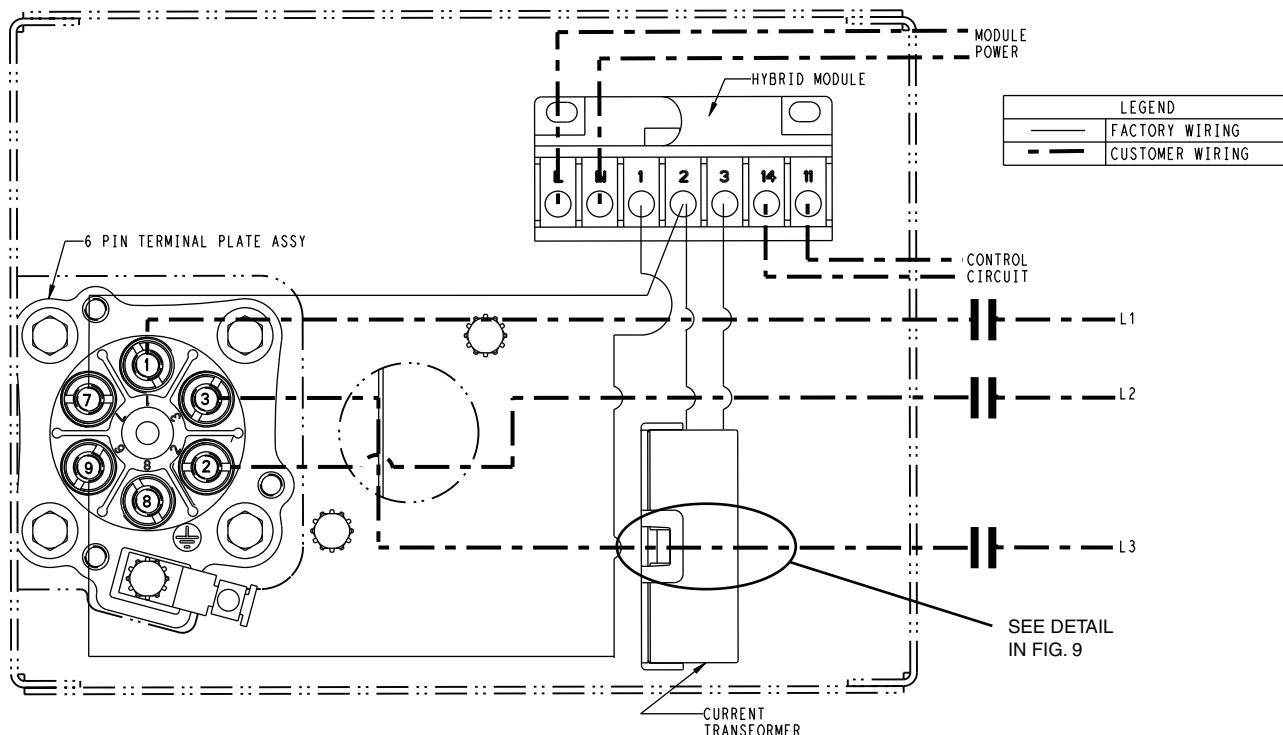
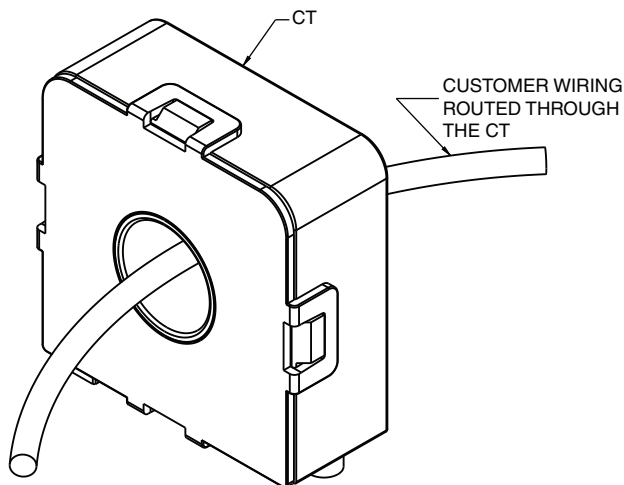
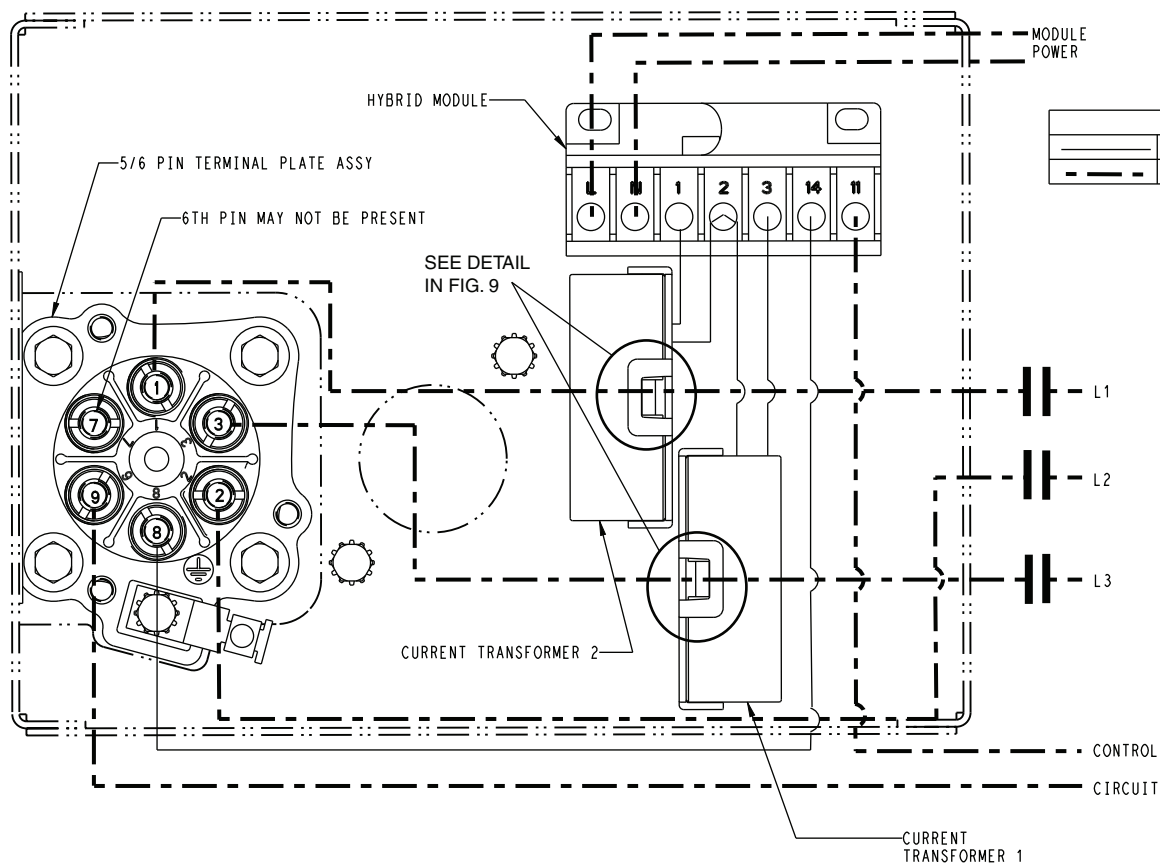

Fig. 8 — Hybrid Overload Wiring
Fig. 9 — Routing Power Lead through Current Transformer (CT)
Fig. 10 — Service Hybrid Overload Wiring — 5-Pin Plate Assembly or 6-Pin Plate Assembly for Universal Compressor
1. Connect one of the 2 control circuit leads to connection 14 located on top of the module. Connect the other control circuit lead to connection 11 located on top of the module. Use a fork terminal or stripped and tinned wire to prevent fraying. See Fig. 8. Torque module connections to 12 lb-in. (1.35 N•m) maximum.
3. Route one power lead (L3) through the current transformer (CT) as shown in Fig. 8. See detail in Fig. 9.
4. Once power lead L3 is routed through the CT, make terminal plate connections as shown in Fig. 8. Refer to Terminal Plate Wiring section for connection details.
1. Connect one control circuit lead to module connection 11 located on top of the module as shown in Fig. 10. Use a fork terminal or stripped and tinned wire to prevent fraying. Torque module connections to 12 lb-in. (1.35 N•m) maximum.
3. Route 2 power leads (L1 and L3) through current transformers (CTs) as shown in Fig.10. See detail in Fig. 9.
4. Once power lead L3 is routed through CT, make terminal plate connections as shown in Fig. 10. (Terminal pin 7 is not used but may be present on 6-pin assembly.) Refer to Terminal Plate Wiring section for connection details.